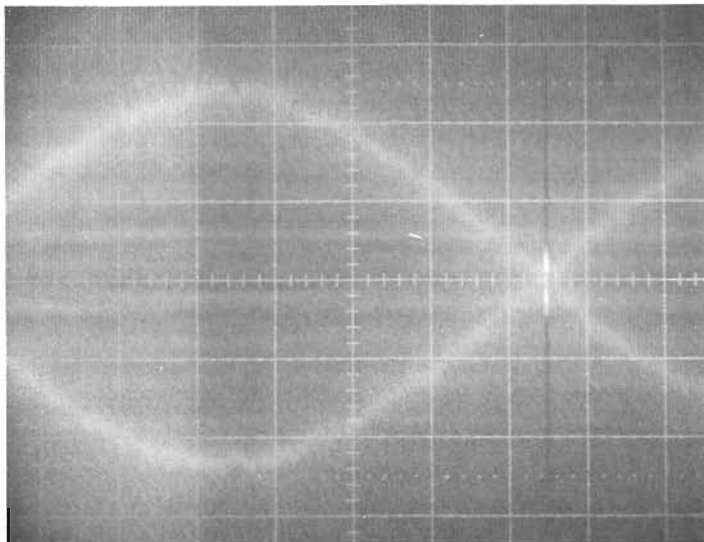
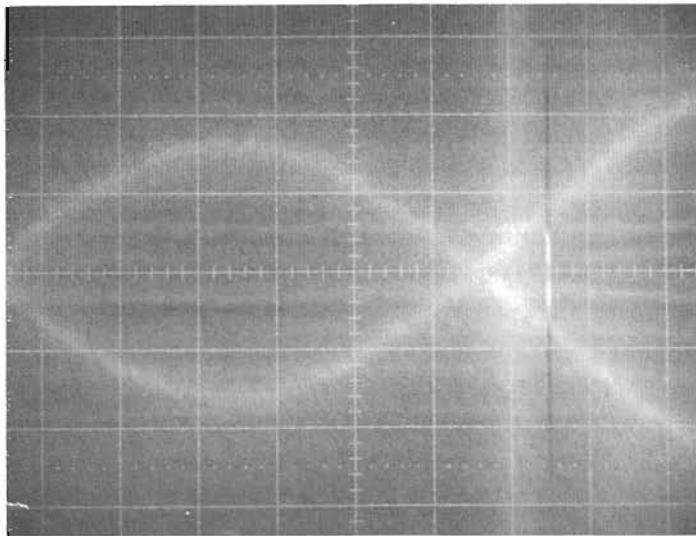

Figure 5-7. 200 TPI HEAD PROPERLY ALIGNED
Figure 5-8. 200 TPI HEAD MISALIGNED
B. 200 tpi alignment description (using Alignment Cartridge P/N 70709 or 71299). Observe the oscilloscope pattern, and refer to Figure 5-7 and 5-8.
The oscilloscope pattern should consist of two sinusoidal traces and an alignment marker. When the head is properly aligned, the pattern should resemble that shown in Figure 5-7. A misaligned head will produce a pattern similar to that shown in Figure 5-8.